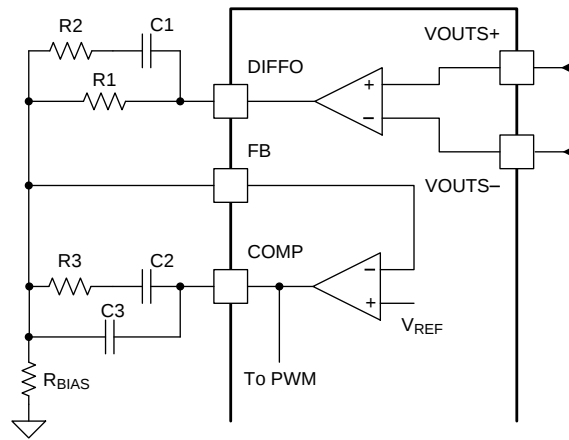

Figure 33. Output Voltage Setting
The TPS544x25 devices implement a differential remote sense amplifier to provide excellent load regulation by cancelling IR-drop in high current applications. The VOUTS+ and VOUTS– pins should be kelvin-connected to the output capacitor bank directly at the load, and routed back to the device as a tightly coupled differential pair. Ensure that these traces are isolated from fast switching signals and high current paths on the final PCB layout, as these can add differential-mode noise. Optionally, use a small coupling capacitor (1-nF typical) between the VOUTS+ and VOUTS– pins to improve noise immunity. The output of the differential remote sense amplifier (DIFFO) is used for output voltage setting and error amplifier frequency compensation local to the device as shown in Figure 33.
A voltage divider from the DIFFO pin to the FB pin is typically required to set the nominal output voltage like the one formed by R1 and R_{BIAS} resistors shown in Figure 33. To allow PMBus devices to map between the commanded voltage and the voltage at the control circuit input (V_{OUT} divided down to match a reference voltage), the device uses the VOUT SCALE LOOP command.
- $V_{OUT_SCALE_LOOP} = R_{BIAS}/(R_{BIAS}+R1)$ (as shown in Figure 33) (1)